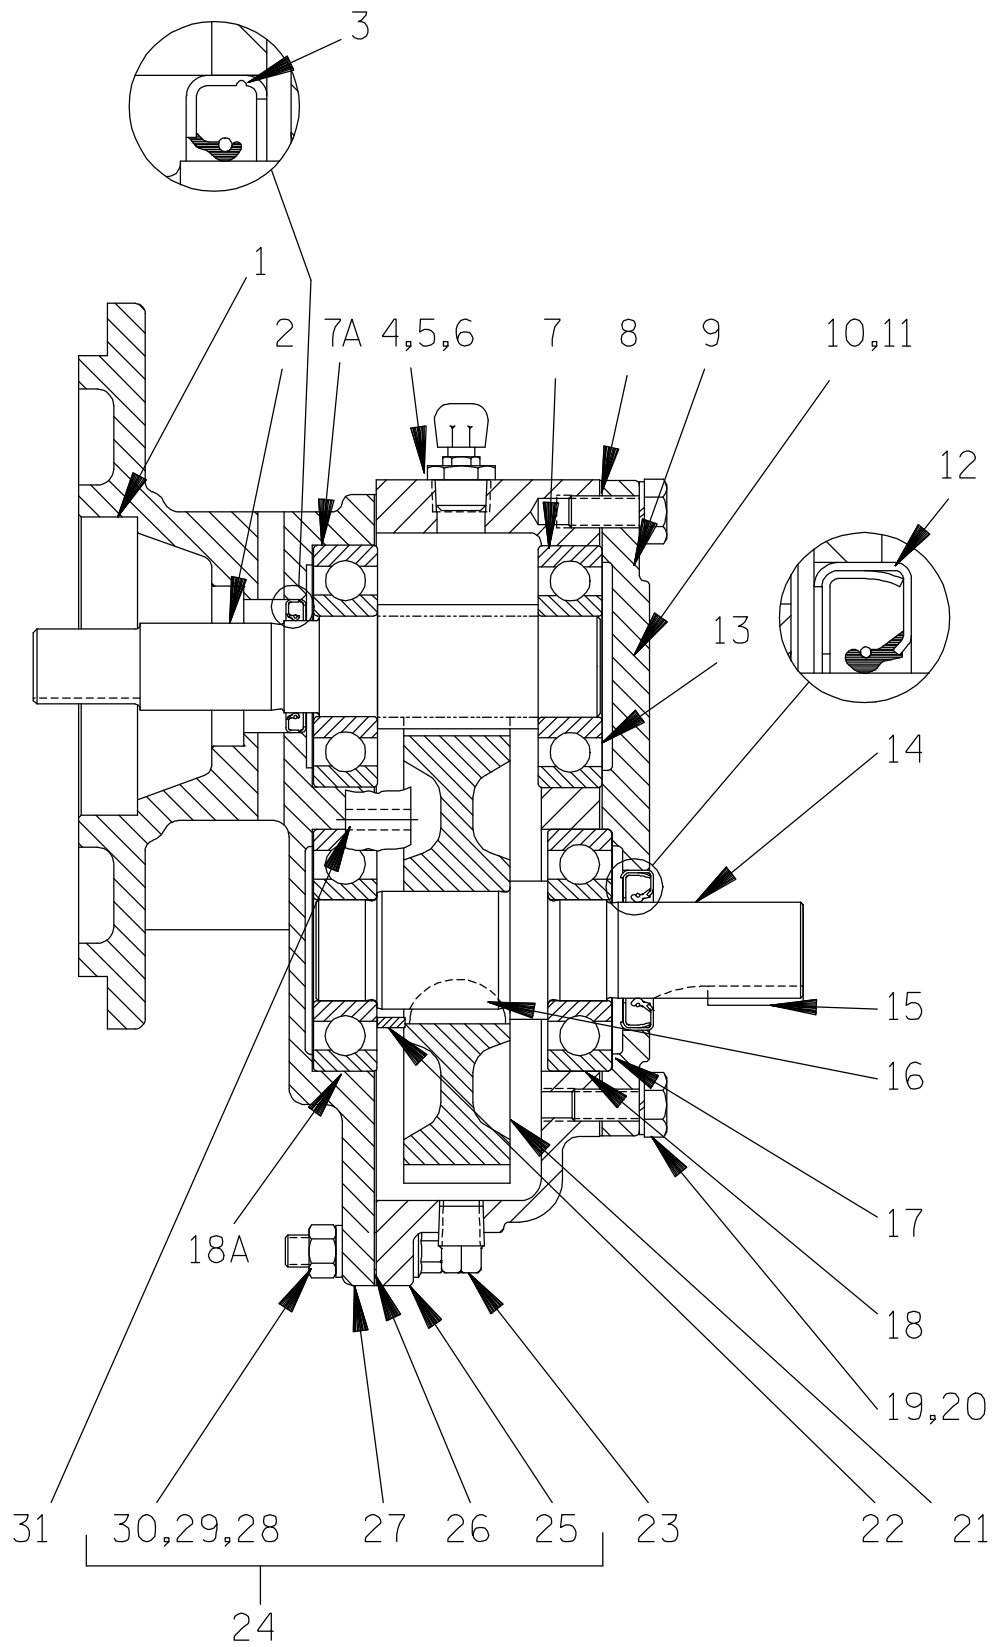

Figure 2. 44161-014 Gearbox Assembly
To service the impeller, wear ring or seal assembly, the pump casing (1) must be separated from the seal plate (27, Figure 2).
To loosen the impeller screw (21), immobilize the drive shaft (14, Figure 2). Remove the impeller screw, lockwasher (22), and impeller washer (19).
Inspect the pinion shaft (2, Figure 2) for distortion, nicks, scratches, or damage to the shaft keyway.